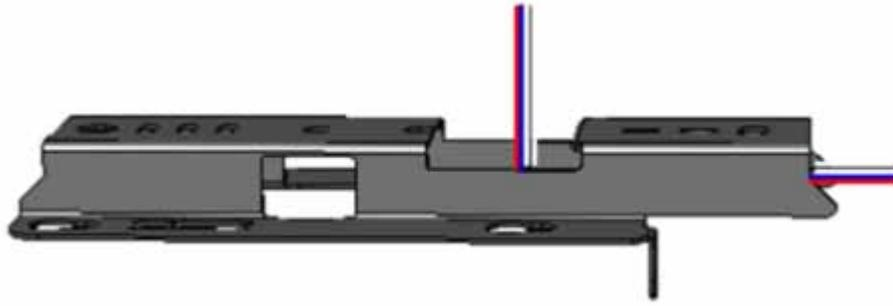

Figure 6-5: Mounting Bracket on Wall
2. Route the connection cables through the center of the Mounting Bracket. See Figure 6-5.